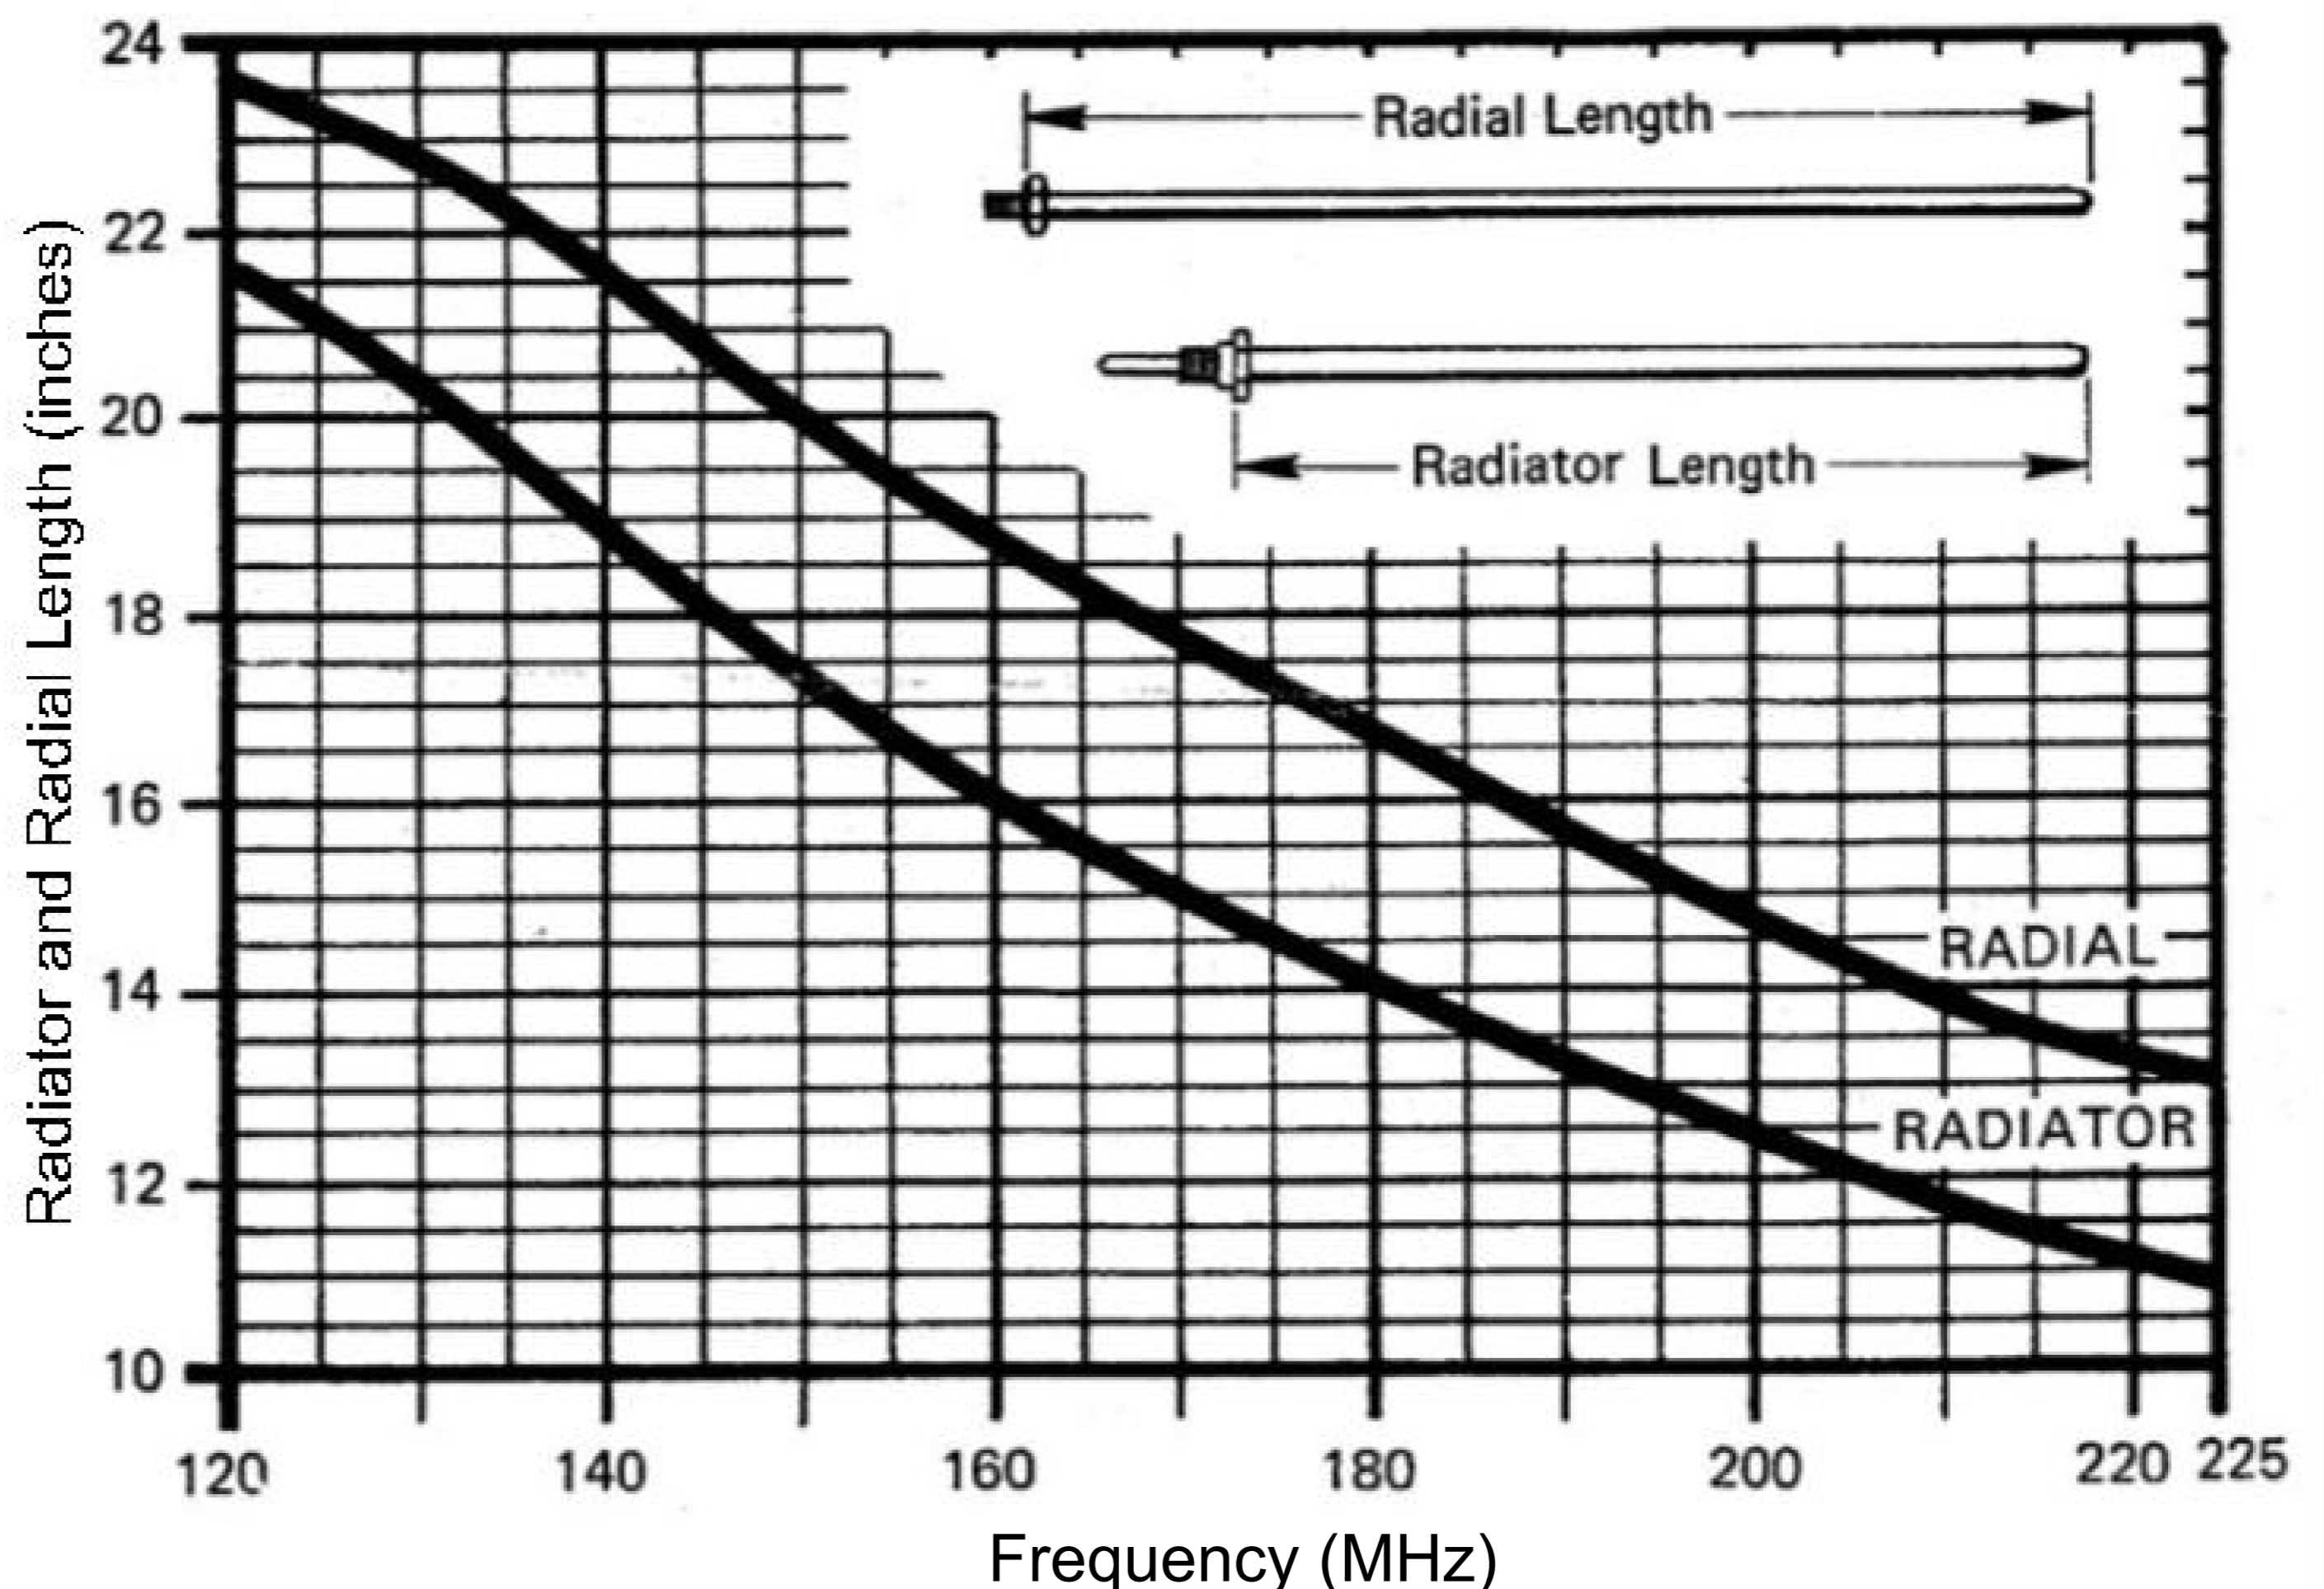

Figure 1. Cutting Information for 120-512 MHz Models.
1. If the antenna elements are not cut to the desired frequency, see Figures 1 and 2 to determine the length needed. Round off the end of each rod to remove any sharp edges after making any length adjustments.